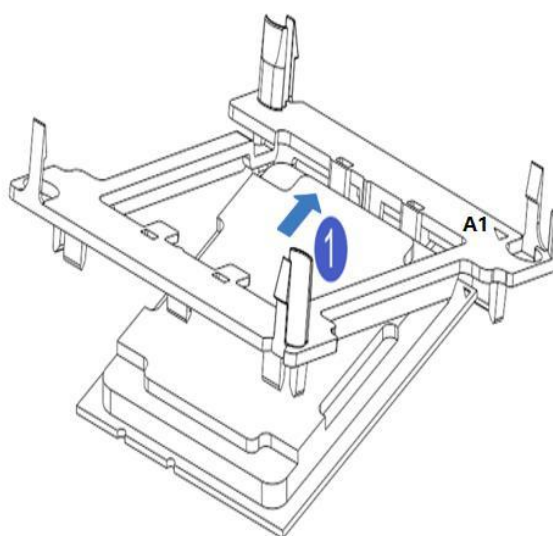

Fig. 3.3
- 1-1. Tilt the CPU angle as shown in Fig. 3.3, align the A1 angle (triangle mark), and clamp it on one end of the clamping sheet.